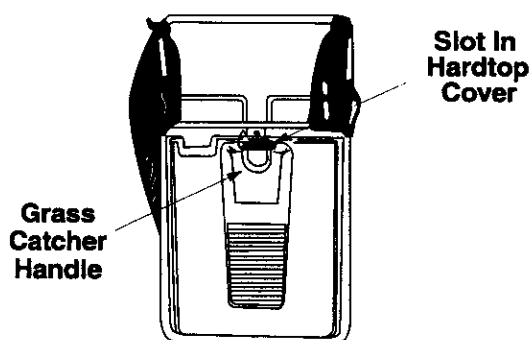

Figure 8
5. Hold the bag and frame so the bag hangs from the frame (is not bunched around the frame). Slide the handle on the grass catcher frame down into the slot in the hardtop cover as shown in Figure 8.